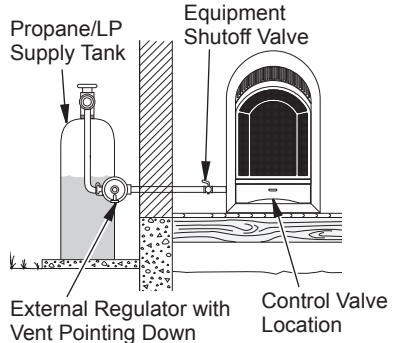

Figure 16 - Checking Gas Joints for Propane/LP Gas
3. Check all joints from gas meter to equipment shutoff valve for natural gas or propane/LP supply to equipment shutoff valve for propane/LP (see Figure 16 or 17). Apply a noncorrosive leak detection fluid to all joints. Bubbles forming show a leak.
4. Check all joints from equipment shutoff valve to control valve (see Figure 16 or 17, page 15). Apply a noncorrosive leak detection fluid to all joints. Bubbles forming show a leak.